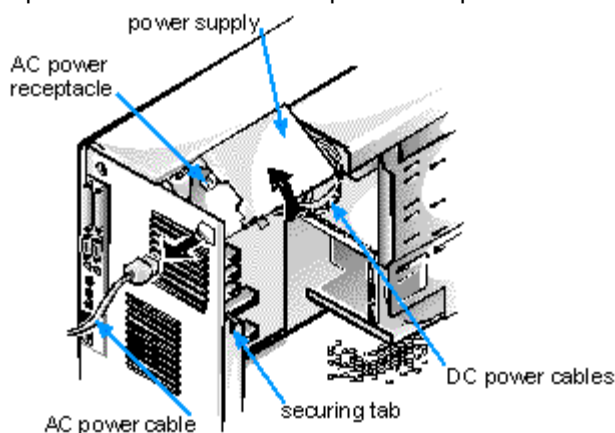

Figure 8-6. Rotating the Power Supply
2. Disconnect the AC power cable from the AC power receptacle on the back of the power supply (see Figure 8-6).